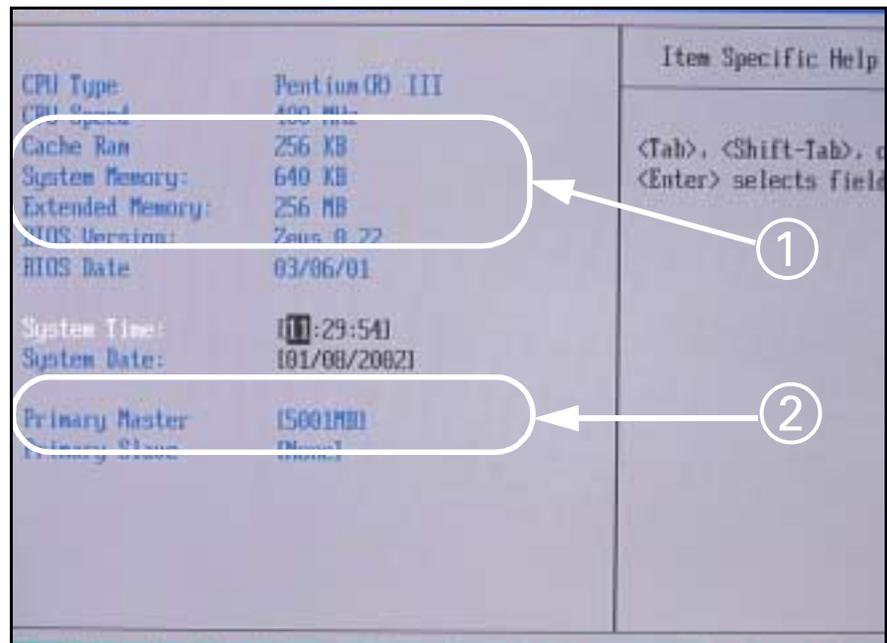

Figure 6-3 PhoenixBIOS Utility Screen
- 4.1) Cache Ram, System Memory and Extended memory are as shown by ① in Figure 6-3.
- 4.2) Primary Master drive capacity is displayed (② in Figure 6-3).